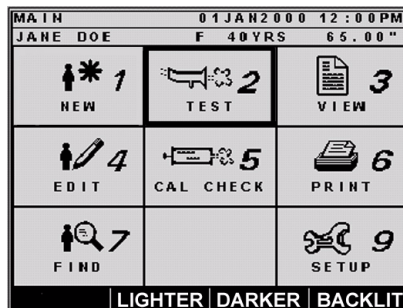

Figure 8: Select **TEST** from **MAIN** screen
1. From the “MAIN” screen, press **2** on the keypad or scroll to **TEST** using the cursor key and press **ENTER** (Figure 8).